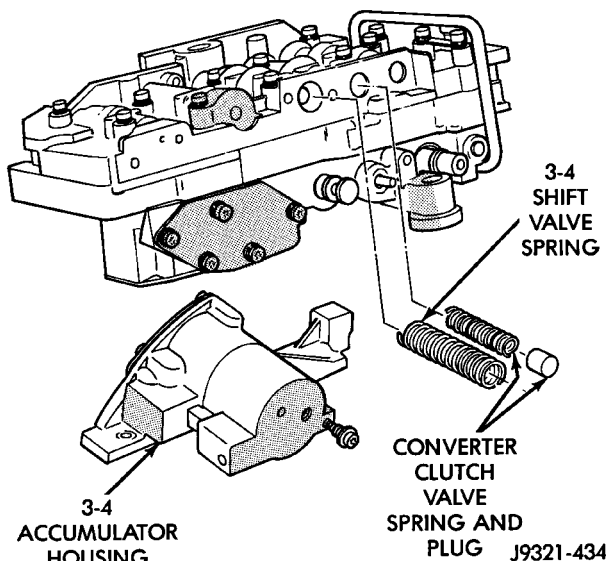

Fig. 57 Accumulator Housing, Valve Springs And Plug
(25) Remove left-side screw and remove 3-4 accumulator housing from valve body (Fig. 57).